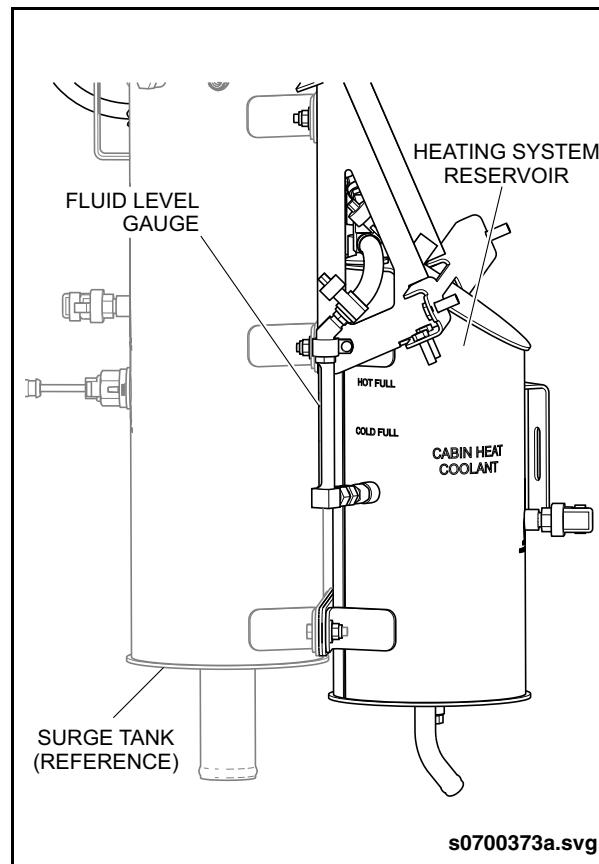

Fig. PM-10: Heating System Reservoir Fill Level
- Top off coolant to the correct level as required using premix antifreeze. Refer to 2.36. "Fluid & Lubrication Guide" on page 109 in this section for antifreeze specification. See "Fig. PM-10: Heating System Reservoir Fill Level" on page 36.